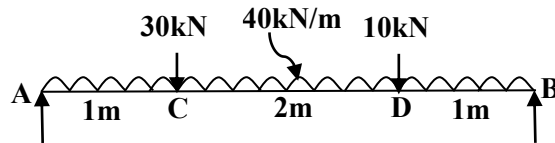

Figure 2
- (c) Draw Shear force and Bending moment diagram for a beam shown in figure 2. **07**
- (c) Draw S.F and B.M diagrams for a beam loaded as shown in figure 2. 07